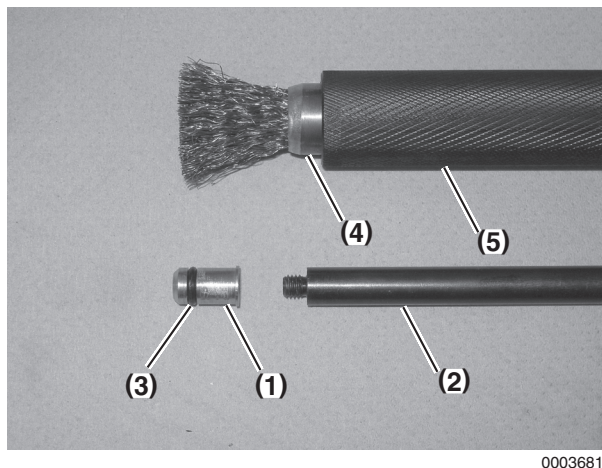

Figure 6-11
3. Thread the tip (special tool OEM No. 13 5 215) (**Figure 6-11, (1)**) onto the end of special tool OEM No. 13 5 214 (**Figure 6-11, (2)**).
4. Ensure O-ring (**Figure 6-11, (3)**) is in place and insert the tip into hole at bottom of injector cavity.
6. Push brush (**Figure 6-11, (4)**) into guide sleeve (special tool OEM No. 13 5 210) (**Figure 6-11, (5)**).